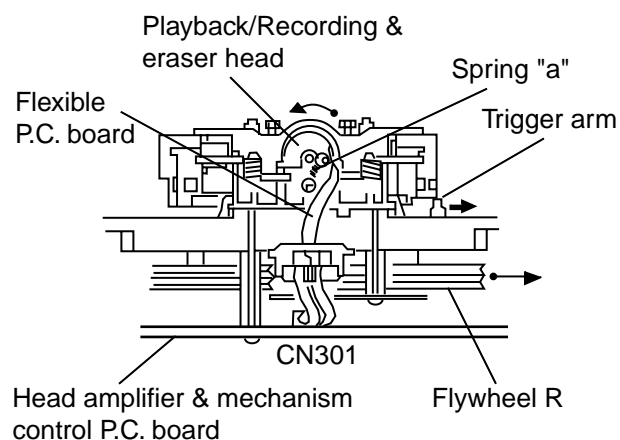
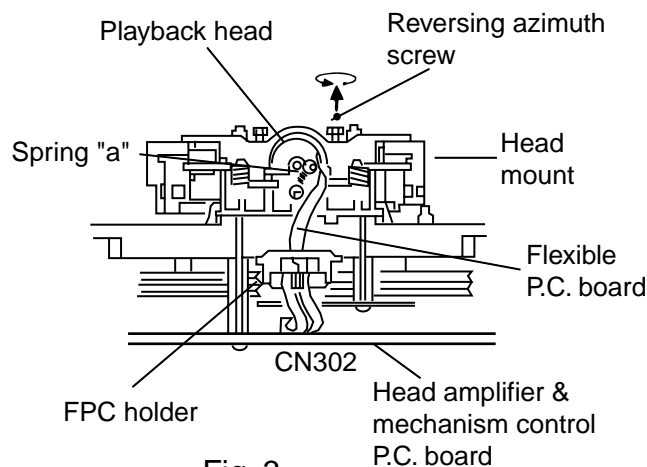

Fig. 2 (Mechanism A side)
Fig. 3 (Mechanism B side)
2. When the flywheel R is rotated in counterclockwise direction, the playback head will be turned in counterclockwise direction from the position in Fig. 2 to that in Fig. 3.
● Reassembling the Playback, Recording and Eraser Heads (See Fig.2,3)
1. Reassemble the playback head from the front of the head mount to the position as shown in Fig. 3.
4. Attach the flexible P.C. board to the chassis base, and fix it with the FPC holder as shown in Fig. 3.